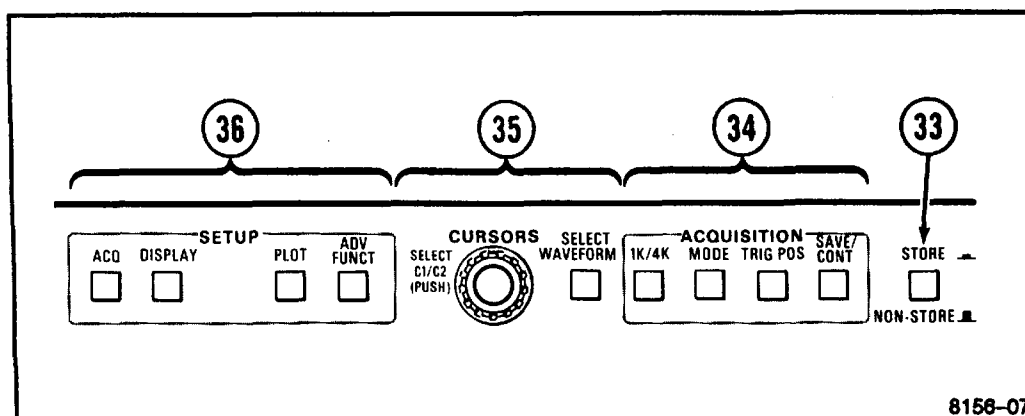

Figure 3-5. Storage Controls.
Refer to Figure 3-5 for location of items 33 through 36.